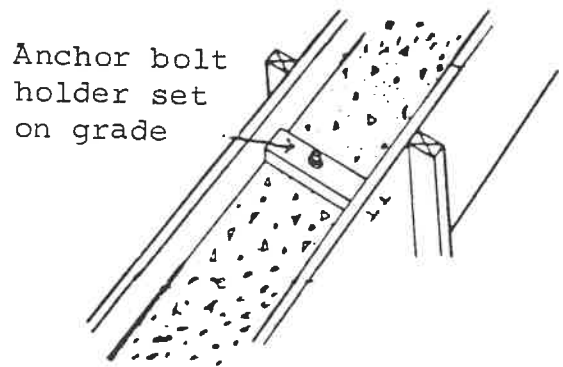

Figure 32
9. The last thing that needs to be done is to set the anchor bolts that will hold the sills of the super-structure. Check the working drawings for the size and spacing of the anchor bolts. Mark the locations on the sides or top of both the outside and inside form panels. The anchor bolt holders or templates should be cut from the same thickness as the permanent stock that will be used for sills and the length should be the same as the width of the wall. These are set on top of the finish grade of the wall as shown in Figure 32.